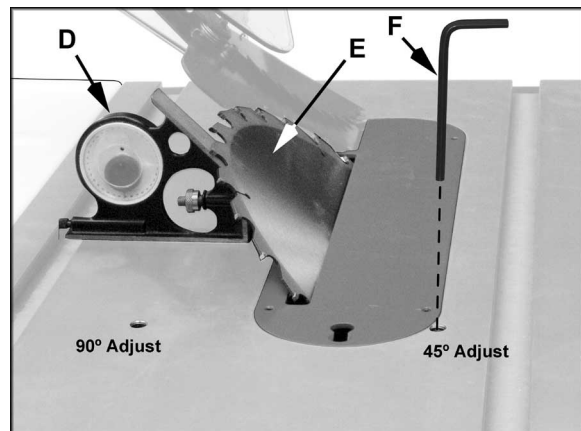

Figure 20
9. Place a square (D, Fig. 20) on the table and check to see that the blade (E, Fig. 20) is at a 45° angle to the table. Make sure that the square is not touching a blade tooth.
10. Back out the 45° adjust setscrew (turn counterclockwise) one or two turns with a 4mm hex wrench (F, Fig. 20).